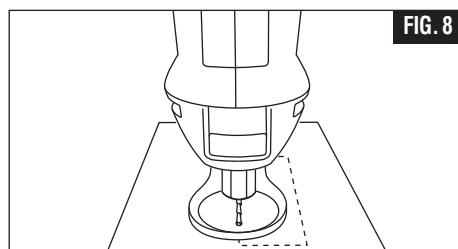

FIG. 8
**Step 4:** Slowly bring it to a 90° angle to begin the cut. The depth guide should be flush to the material surface (Fig. 8).